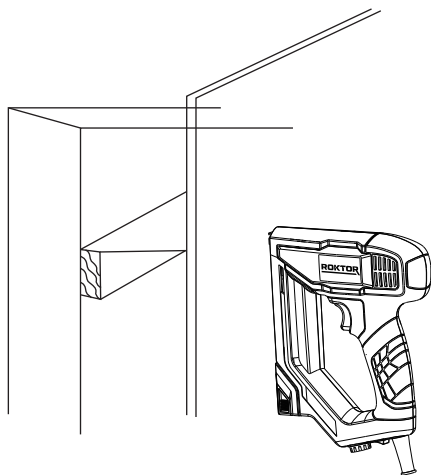

Fig 5
#### 4. APPLICATION TIPS (See Fig. 5 & 6)
- Fastening panels (See Fig. 5)